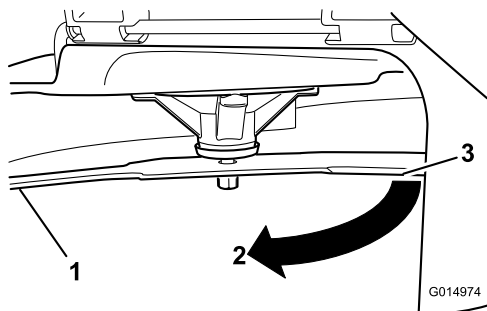

Figure 95
3. Measured distance between blade and the surface (A)
4. Rotate the same blade 180 degrees so that the opposing cutting edge is now in the same position (Figure 95).